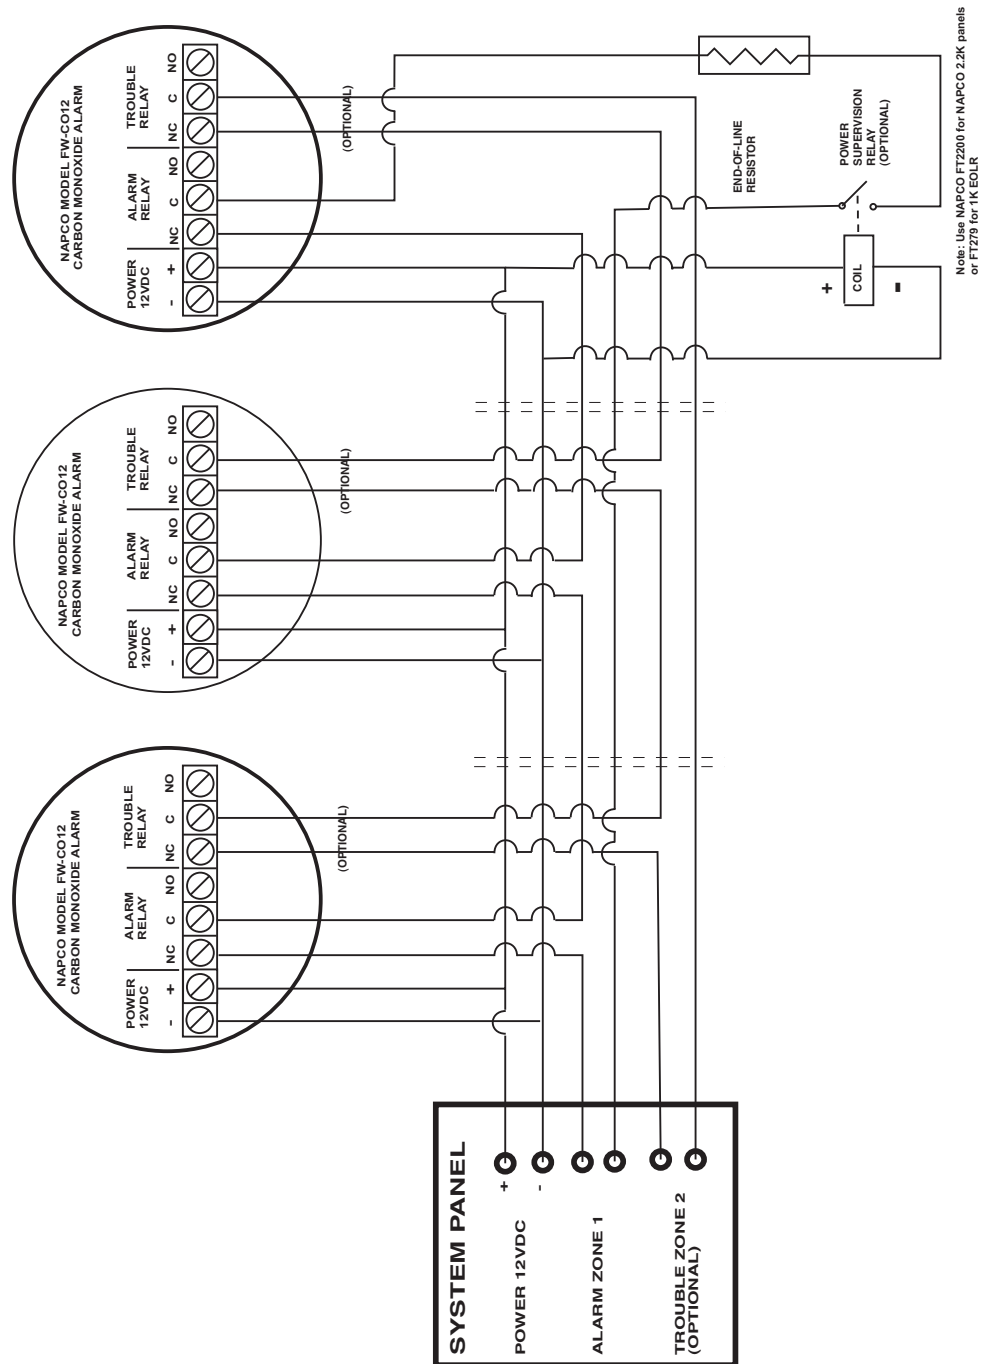

Figure 6. 12VDC System Multiple Alarms: Installation Wiring Diagram
- 9.5.4 The FW-CO12 alarms do not include power supervision. This may be accomplished by installing a power supervision relay at the end of the alarm power circuit, such as the NAPCO FT2200 (see Figure 6). There is no internal backup battery.